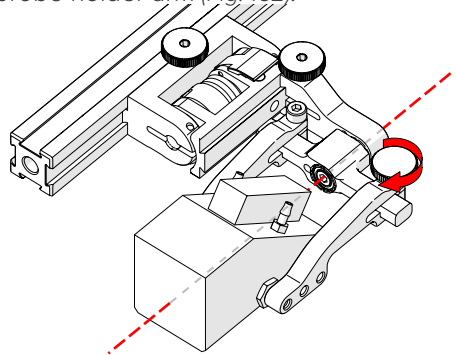

Fig. 153 - Pinch wedge with arm
9. Tighten the probe holder arm adjustment knob (Fig. 153).